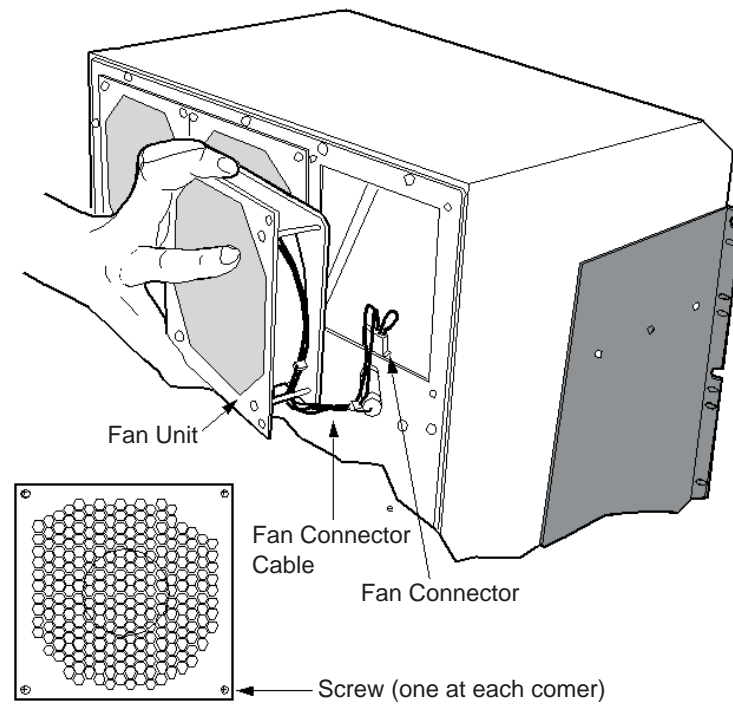

Figure 23. Replacing a Defective Fan Unit
2. Carefully pull the fan unit straight out from the 8265 fan bay and, before completely removing the fan, grasp the four-position fan connector cable and disconnect it from the 8265 (see Figure 23).
Figure 23 shows how to install a fan unit.